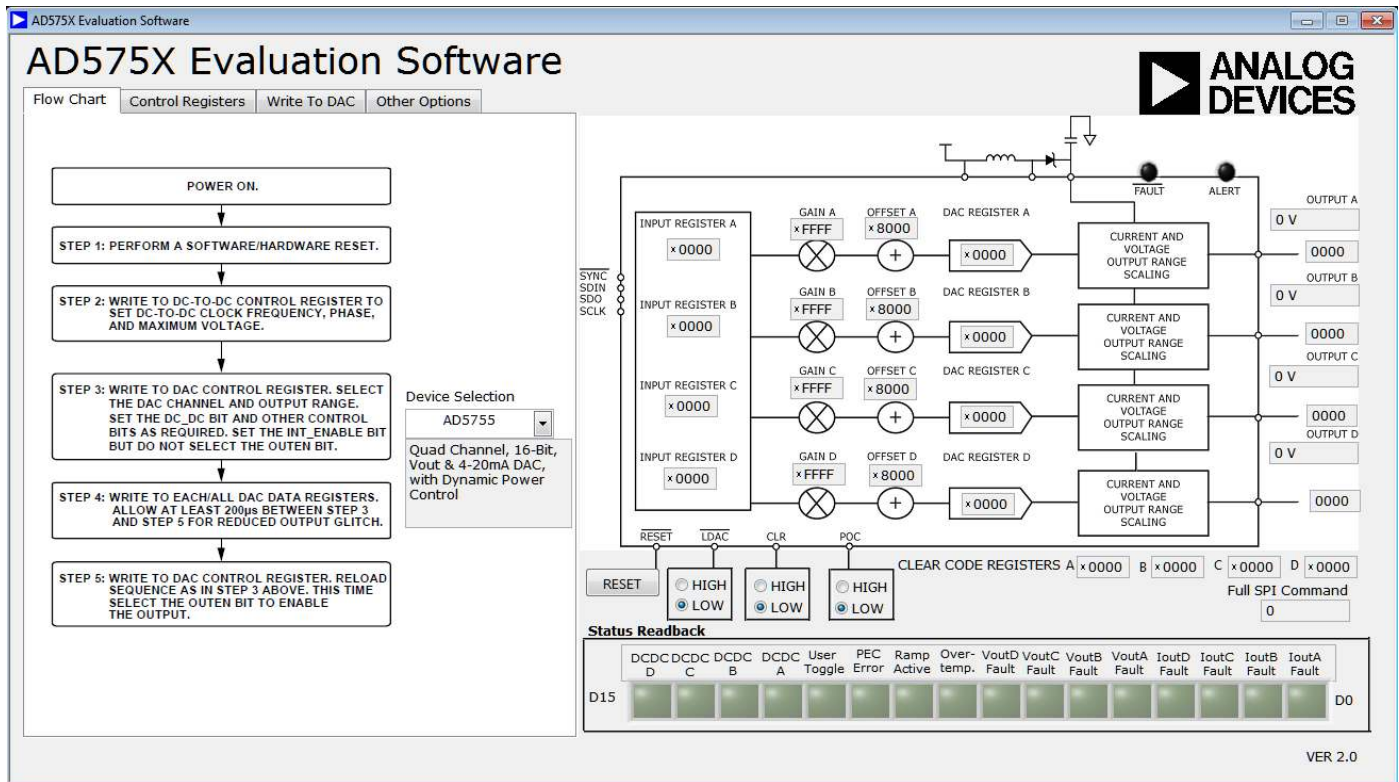

Figure 6. Main Window
1. From the **Start** menu, select **Analog Devices –AD575X Evaluation Software**, and then select **AD575X Evaluation Software**. The main window of the software opens (see Figure 6).